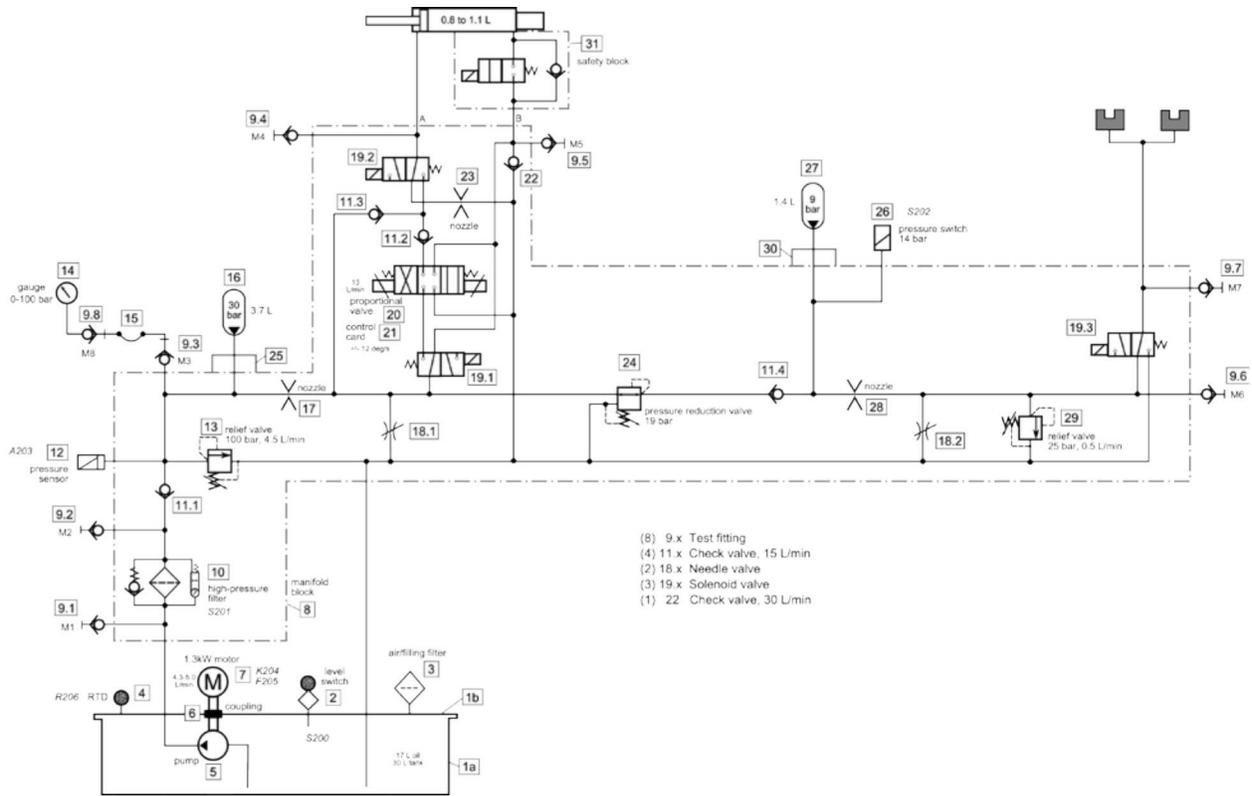

Figure 4-54. Hydraulic system
**Refer to** Figure 4-54
3. Drain the pitch accumulator (pos. 16, Figure 4-54 slowly (this should take approximately 2 minutes) by opening needle valve 18.1.
8. Drain the brake accumulator (pos. 27, Figure 4-54 slowly (this should take approximately 2 minutes) by opening needle valve 18.2.
2. Drain the pitch accumulator (pos. 16, Figure 4-54) by opening needle valve 18.1.